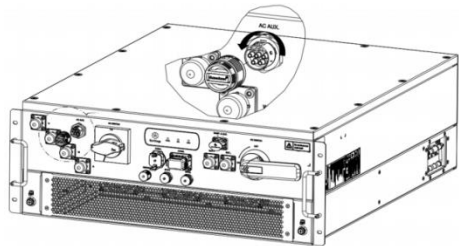

Figure 6-9 Remove the dust cap on the AC AUX. socket
Step 1: Use an unlocking tool or a flathead screwdriver to hold down the locking buckle and rotate counterclockwise to remove the dust cap on the AC AUX. socket, as shown in Figure 6-9.